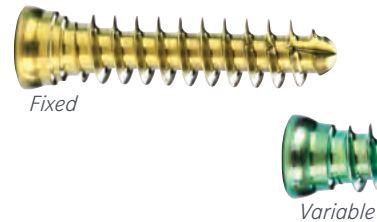

Figure 21:
- Select the appropriate screw type (fixed or variable angle) and length (22 to 34 mm) (Figure 21).